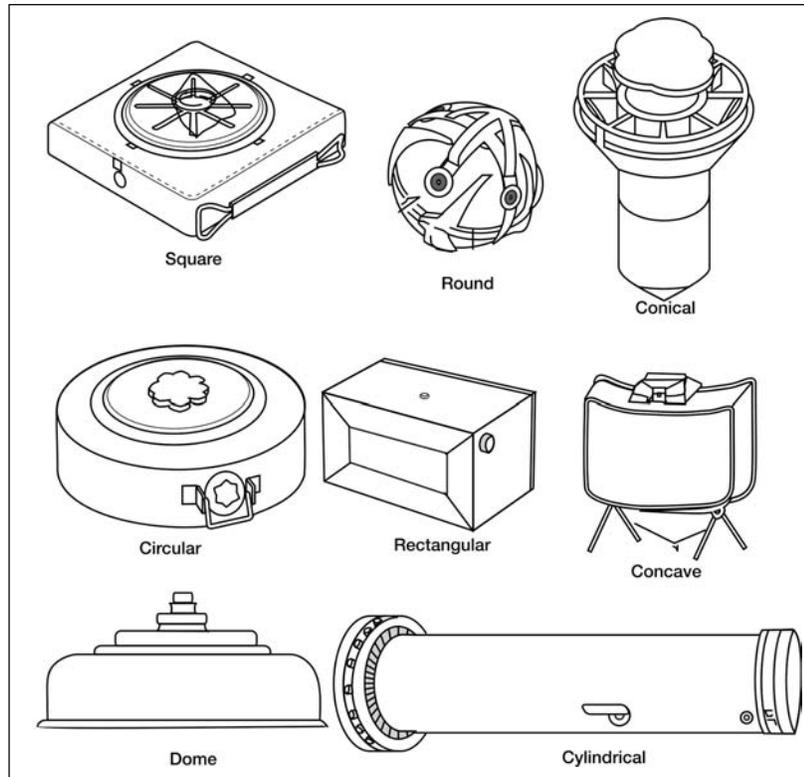

Figure 052-192-1042-1. Samples of Mine Shapes
- (1) Make notes about the mine that you see.
- (a) Describe the shape, and draw pictures if necessary (square, round, conical, circular, rectangular, concave, dome, or cylindrical) (Figure 052-192-1042-1).